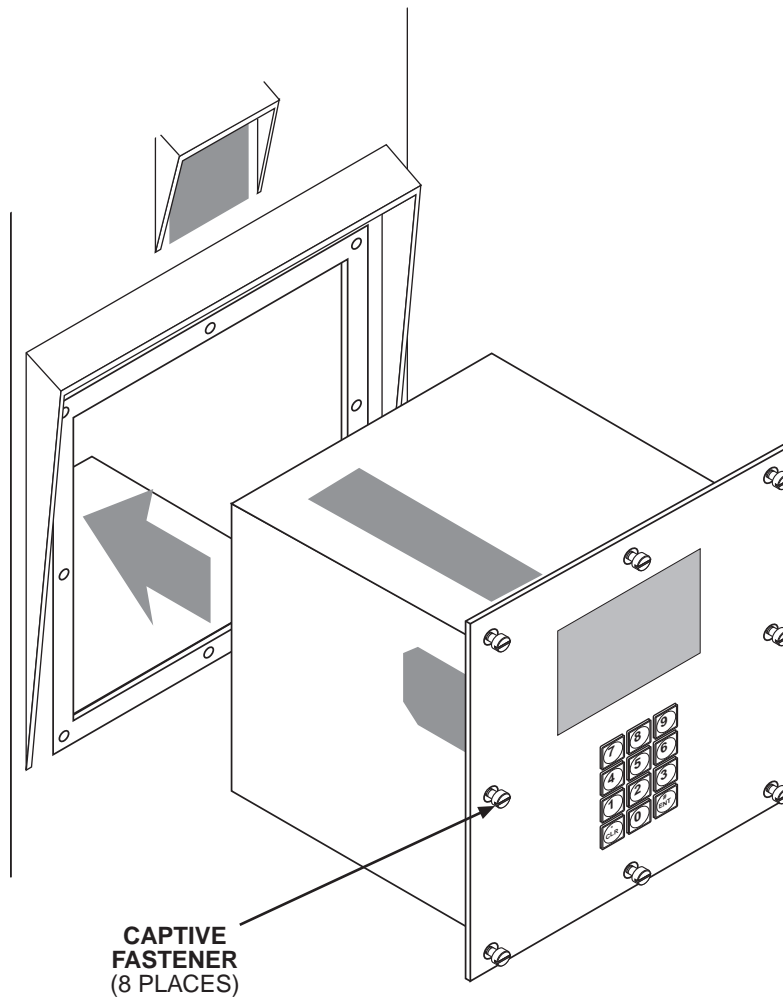

Figure 2-9. Control unit chassis location
1. Slide the control unit chassis into the pedestal (see figure 2-9).
2. Using a flat-blade screwdriver, tighten the 8 captive fasteners (see figure 2-9) to secure the control unit to the pedestal.